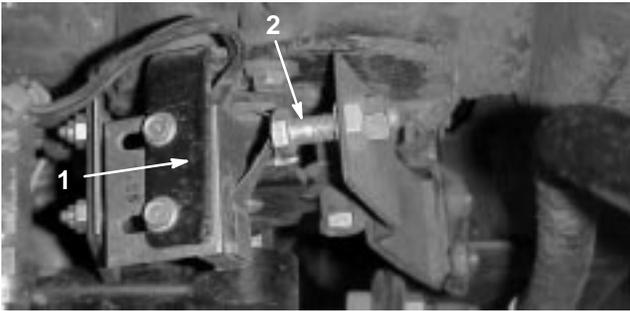

Figure 72
1. Make sure traction pedal is in neutral position. Loosen jam nut on switch adjusting screw (Fig. 72).